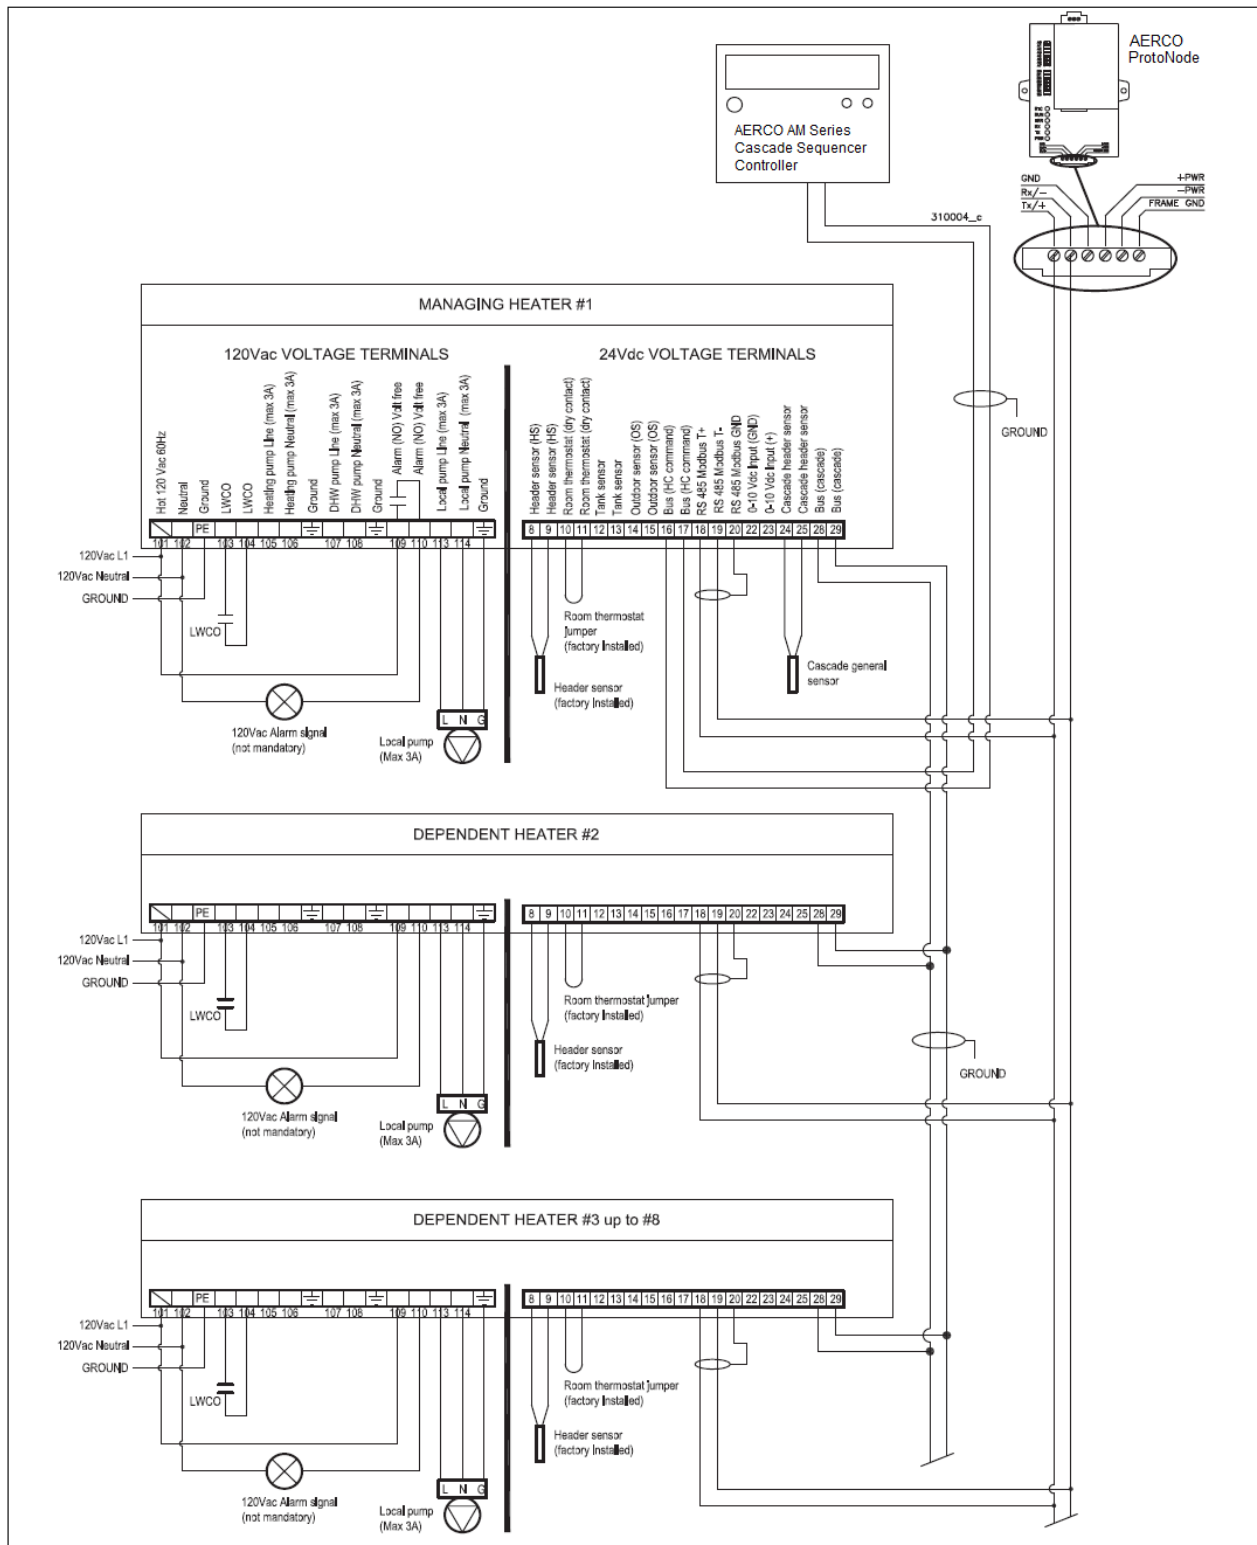
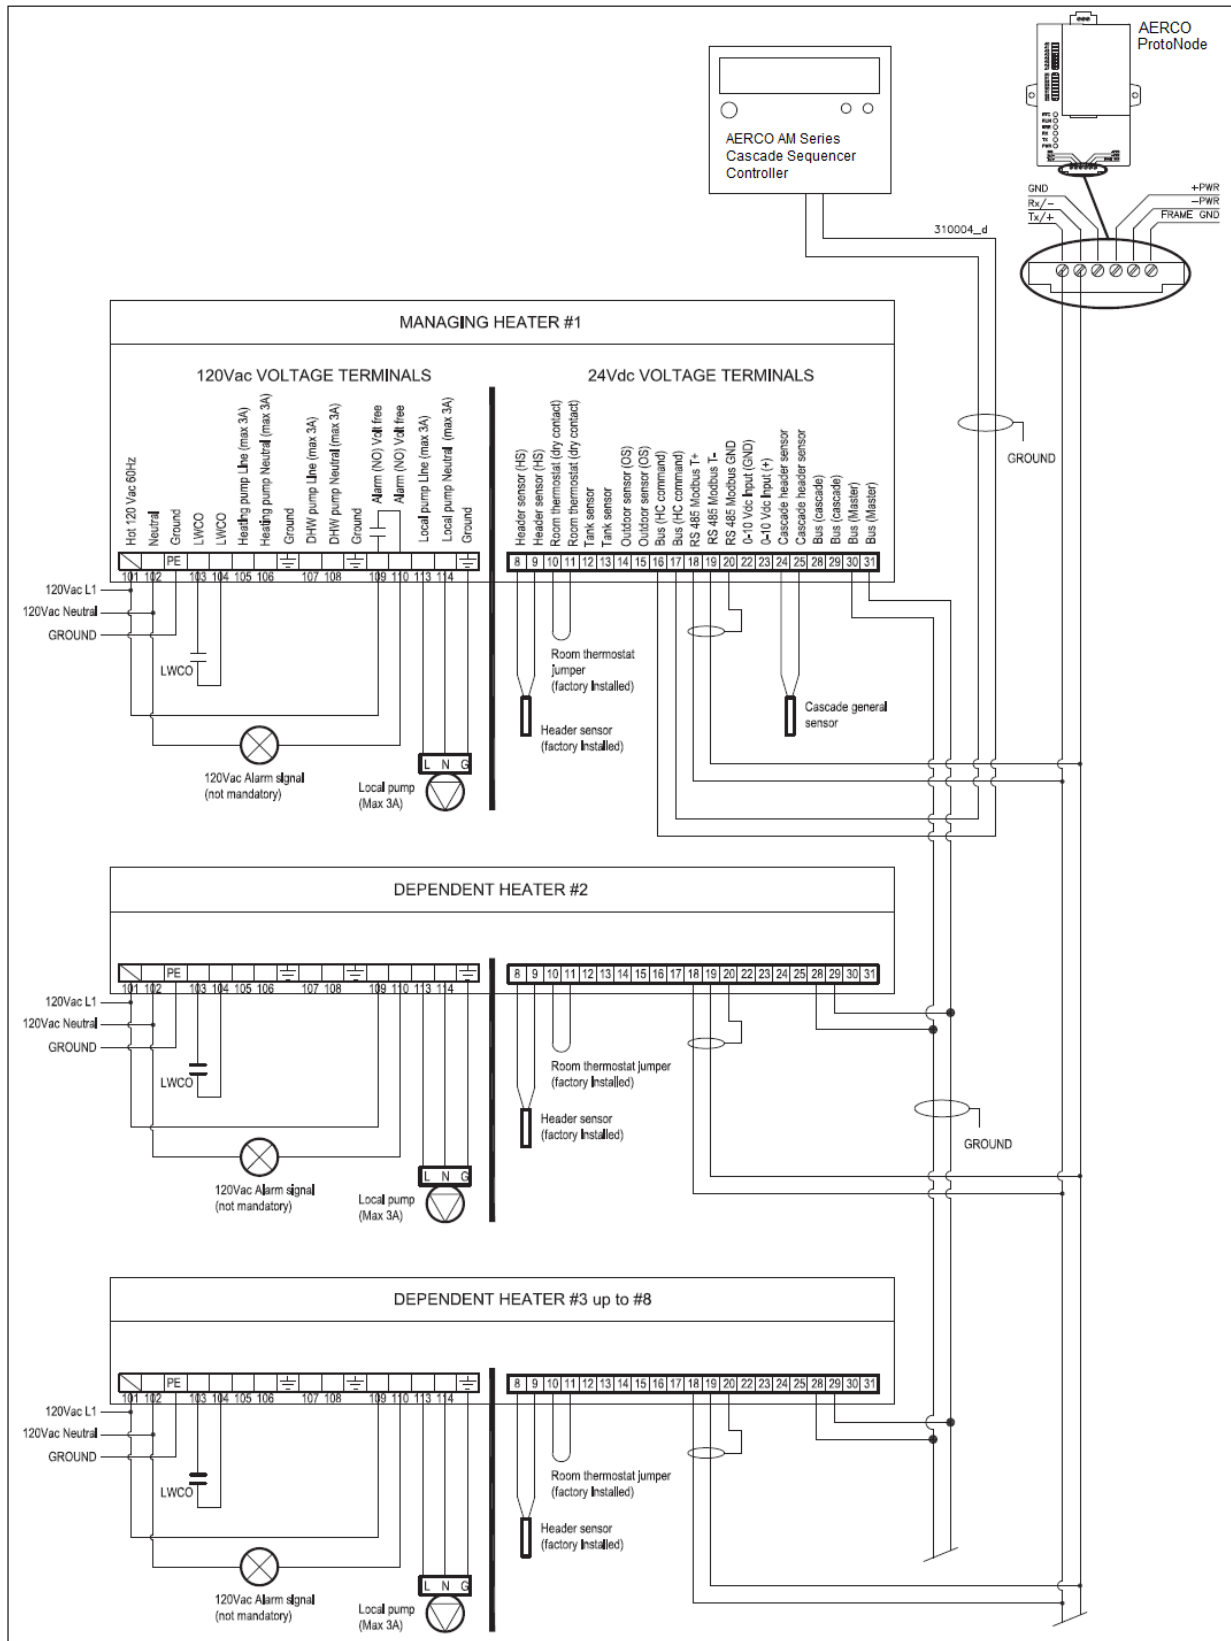

Figure I-1: MODBUS connection to AM Series boilers with serial number < 14999999
Figure I-2: MODBUS connection to AM Series boilers with serial number > 1500000
1. A daisy chain between terminals 28 and 29 of each heater should be already in place. Follow instruction in the *AM Series Cascade Sequencer Controller*, OMM-0101, GF-146-CS and Figure I-1, above. For heaters with serial number higher than 15000000, the Manager Heater needs to have the wiring connected to terminals 30 and 31, labeled **Bus (Master)**. See the *AM Series Cascade Sequencer Controller*, OMM-0101, GF-146-CS and Figure I-2, above.
2. Connect a daisy chain between terminals 18, 19 and 20 of all units (see Figure I-1 or I-2).
3. Connect the daisy chain to the Rx Tx terminals of the ProtoNode (see Figures I-1 or I-2).